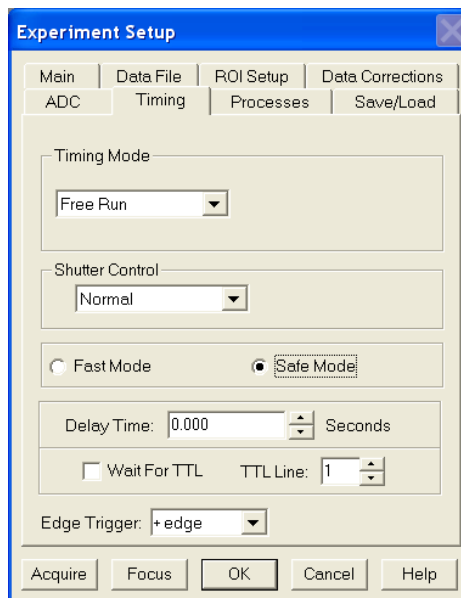

Figure 30. Experiment Setup dialog
3. On the **Timing** tab (Figure 30) set the following parameters.